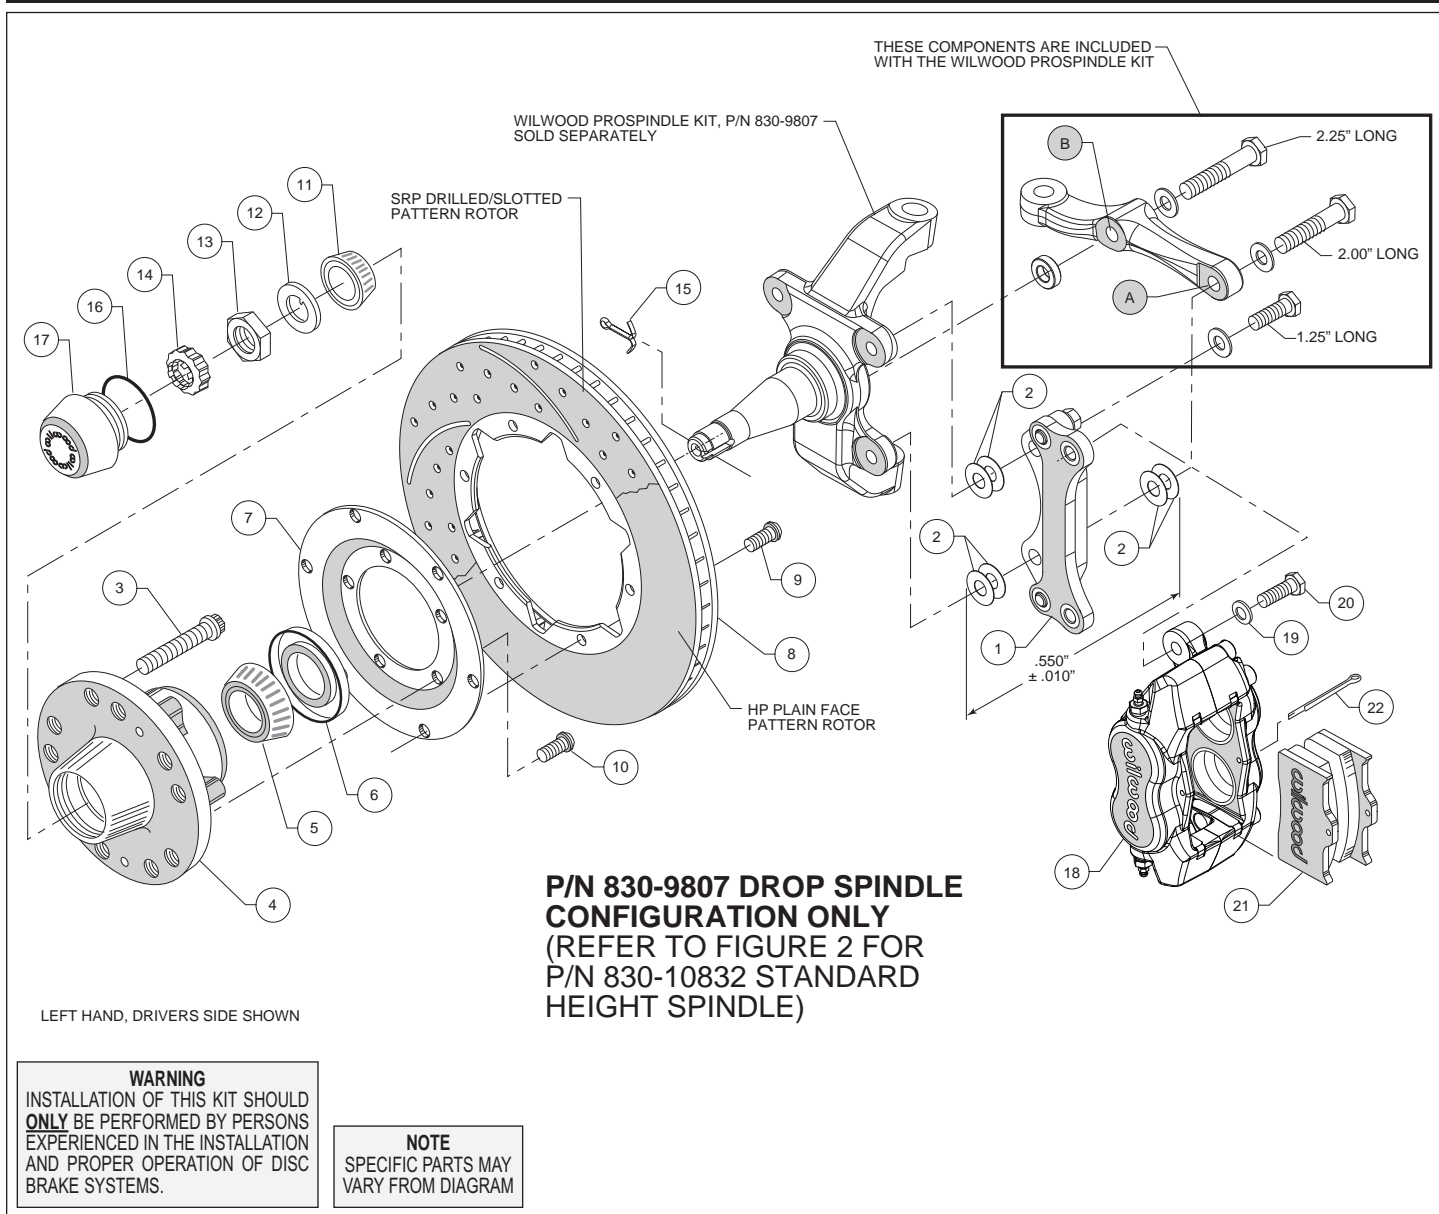

Figure 1. Installation Configuration For Drop Spindle, P/N 830-9807
Assembly Instructions (numbers in parenthesis refer to the parts list and Figures 1 and 2 on the preceding pages):
•**NOTE:** Each Wilwood ProSpindle kit includes bolts, washers, and a spacer to mount the steering arm and caliper bracket. The various bolts are identified by length in the following instructions and in Figures 1 and 2.
- Orient the bracket as shown in Figure 1 and Photo 1. Install at top spindle hole using 1.25" long bolt and .06" thick washer (from ProSpindle kit), and two .016" thick shims (2) between the bracket and spindle, Figure 1.
- Orient the steering arm, and identify the hole marked 'A', as shown in Figure 1. Install at bottom spindle hole using 2.00" long bolt, .06" thick washer (from ProSpindle kit), two .016" thick shims (2) between the steering arm and the bracket, and another two more .016" thick shims (2) between the bracket and spindle, Figure 1. The bracket is located between the steering arm and spindle. **NOTE:** The bracket and shim washers must add up to a total thickness of .550" ± .010", Figure 1.
- Finish attaching the steering arm through the hole marked 'B', as shown in Figure 1. Install using 2.25" long bolt, .06" thick washer, and .25" thick spacer (all from ProSpindle kit), Figure 1.
- Install wheel studs (3) into the hub (4), Photo 3. Torque to 77 ft-lb. **NOTE: There are two lug patterns of five holes each in the hub (5 x 4.50 and 5 x 4.75).** Make sure of the correct hole pattern for the wheel application before installing the studs into the hub.
- Pack the large inner bearing cone (5) with high temperature disc brake bearing grease (available from your local auto parts store) and install into the backside of the hub (4), Photo 4.
- Install the grease seal (6) by pressing into the backside of the hub (4), flush with the end of the hub, Photo 4.
- Orient the rotor (8) and the rotor adapter (7) as shown in Figure 1 or 2 and Photo 5. Attach the rotor to the adapter using bolts (9). Using an alternating sequence, apply red *Loctite*[®] 271 to the threads, and torque to 25 ft-lb.
- Mount the adapter/rotor assembly (7 and 8) to the hub (4) using bolts (10), as shown in Figure 1 or 2 and Photo 6. Using an alternating sequence, apply red *Loctite*[®] 271 to the threads, and torque to 45 ft-lb.
- Pack the small outer bearing cone (11) with high temperature disc brake bearing grease and install into front of hub (4). Slide the hub assembly onto the spindle. Secure using spindle washer (12) and spindle nut (13), Photo 7. Bearing adjustment: Tighten the nut while turning the hub. When there is a slight bind on the bearings, they are seated correctly. Back the nut off about 1/6 to 1/4 of a turn, or sufficiently to allow .001" to .007" end play. **WARNING: Failure to back off adjusting nut could cause bearing to run hot and be**
- Screw dust cap (17) into hub (4), Photo 8. Friction created by the o-ring (16) on the dust cap keeps it from unscrewing.
- NOTE:** Please reference the caution statement at the beginning of the assembly instructions. Mount the caliper (18) onto the caliper mounting bracket (1) using bolts (20) and washers (19), as shown in Figure 1 or 2. Temporarily tighten the mounting bolts and view the rotor (8) through the top opening of the caliper. The rotor should be centered in the caliper, Photo 9. If not, proceed as follows:
- Adjust by adding or subtracting shims (2) between the bracket and the spindle. Always use the same amount of shims on each of the two bolts between bracket and spindle.
- For the lower bracket mount bolt, if a shim was added between the bracket and spindle, then a shim must be removed between the steering arm and bracket, such that the total thickness of bracket and shims remain equal to $.550 \pm .010$ ", Figure 1.